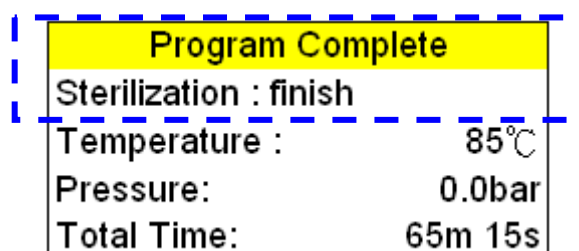

Figure 61– Program Complete
I. On completion, the buzzer will sound and the Program Complete message is displayed as shown in Figure 61– Program Complete.